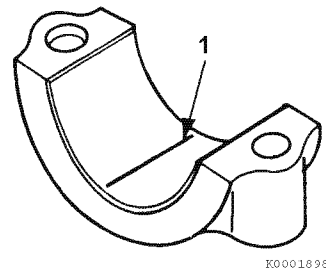

Figure 6-53
4. Place a piece of PLASTIGAGE® (**Figure 6-53, (1)**) along the full width of the bearing insert.